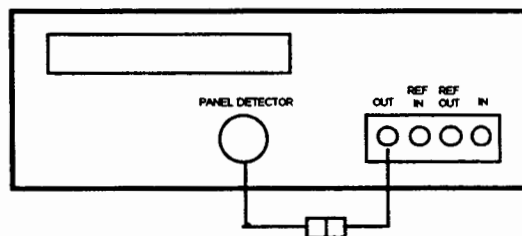

Figure 8: Second Step in the PDL Reference Measurement
2. Connect the FC/PC end of the first measurement jumper to the FC/PC end of the second measurement jumper using a FC/PC - FC/PC mating adapter. Connect the other end of the second jumper to the panel detector (figure 8).